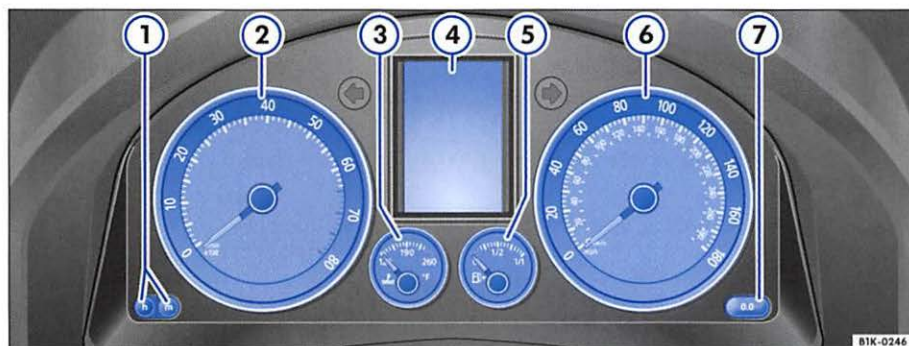

Fig. 3 Detail of the instrument panel: instrument cluster
last digit 100 yards (meters). Press the button  ⇒ page 8, **fig. 3** ⑦ to reset the odometer back to zero.
When a Service is due, you will be reminded by a message appearing either in the instrument cluster ⇒ page 8, fig. 3 ④.